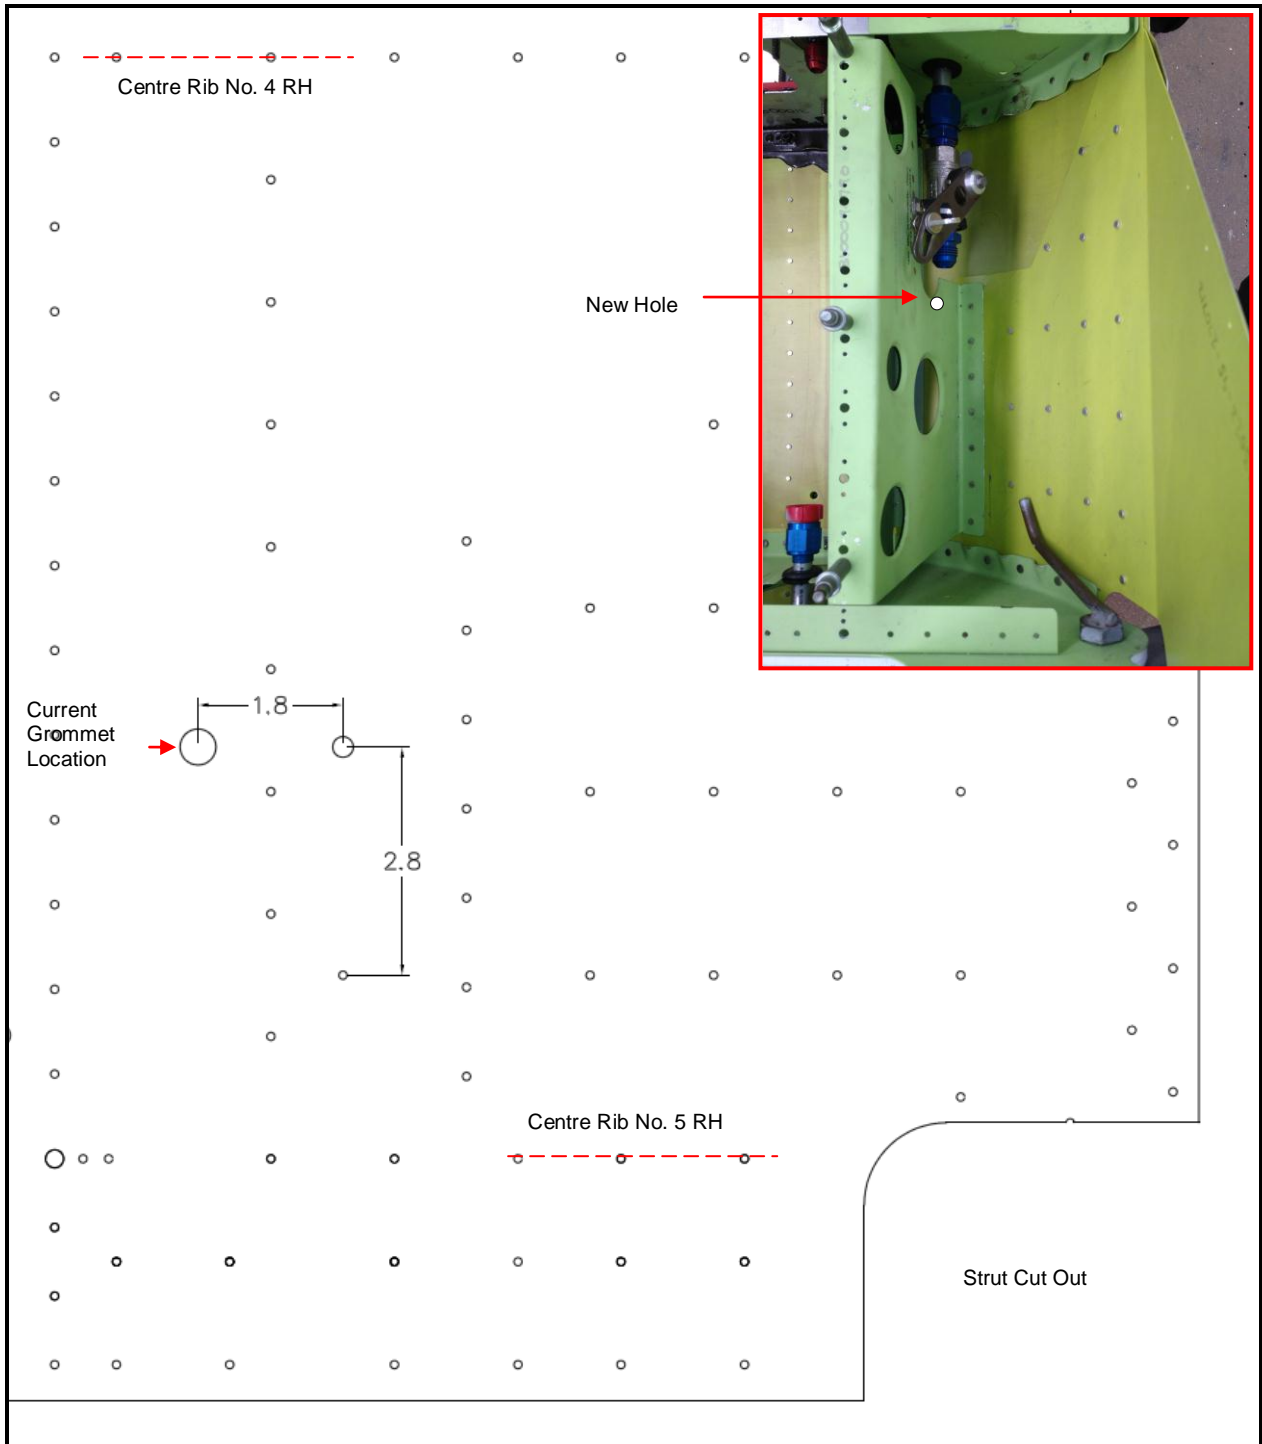

Figure 9: Hole 7 (Belly skin shown from above for clarity, DO NOT REMOVE FLOOR SKIN)
14. Drill ¼ in. hole through bottom skin located outboard of the seat rail rib RH aft (GA8-532021-259) adjacent to grommet, Figure 9.